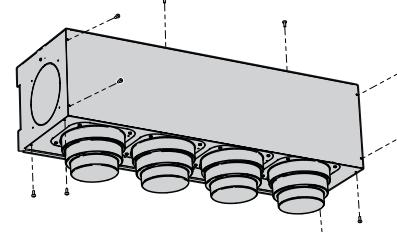

Fig.11
- Use the four screws provided to fasten the PA\_V accessory to the unit intake vent (fig. 11)